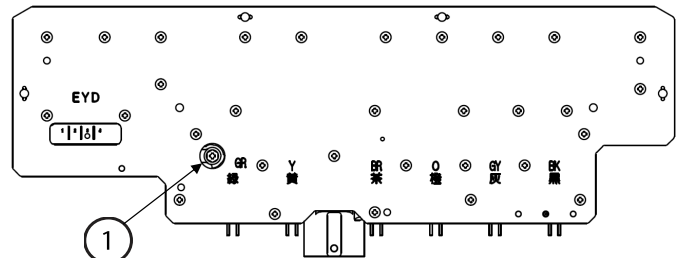

FIGURE 9
- 4) The manifold pressure will also have to be checked using a manometer (digital manometer is suggested). In order to check the gas manifold pressure, a tap is provided on the manifold plate inside the unit (FIGURE 9). The pressure can be checked by removing the Philips head screw ① and connecting a manometer with a silicon tube. Be sure to zero out the manometer before attaching it to the tap.
- 12) Turn off water and gas to unit. Place new screw to manifold tap (FIGURE 9) and turn gas back on to unit.